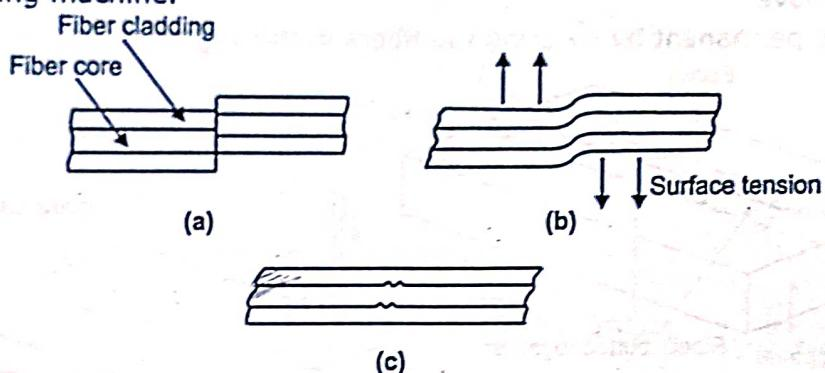

Fig. 2.13: Self-alignment Phenomenon which takes place during Fusion Splicing:
- Self alignment shown in Fig. 2.13 is caused by surface tension effects between the two fiber ends during fusing.